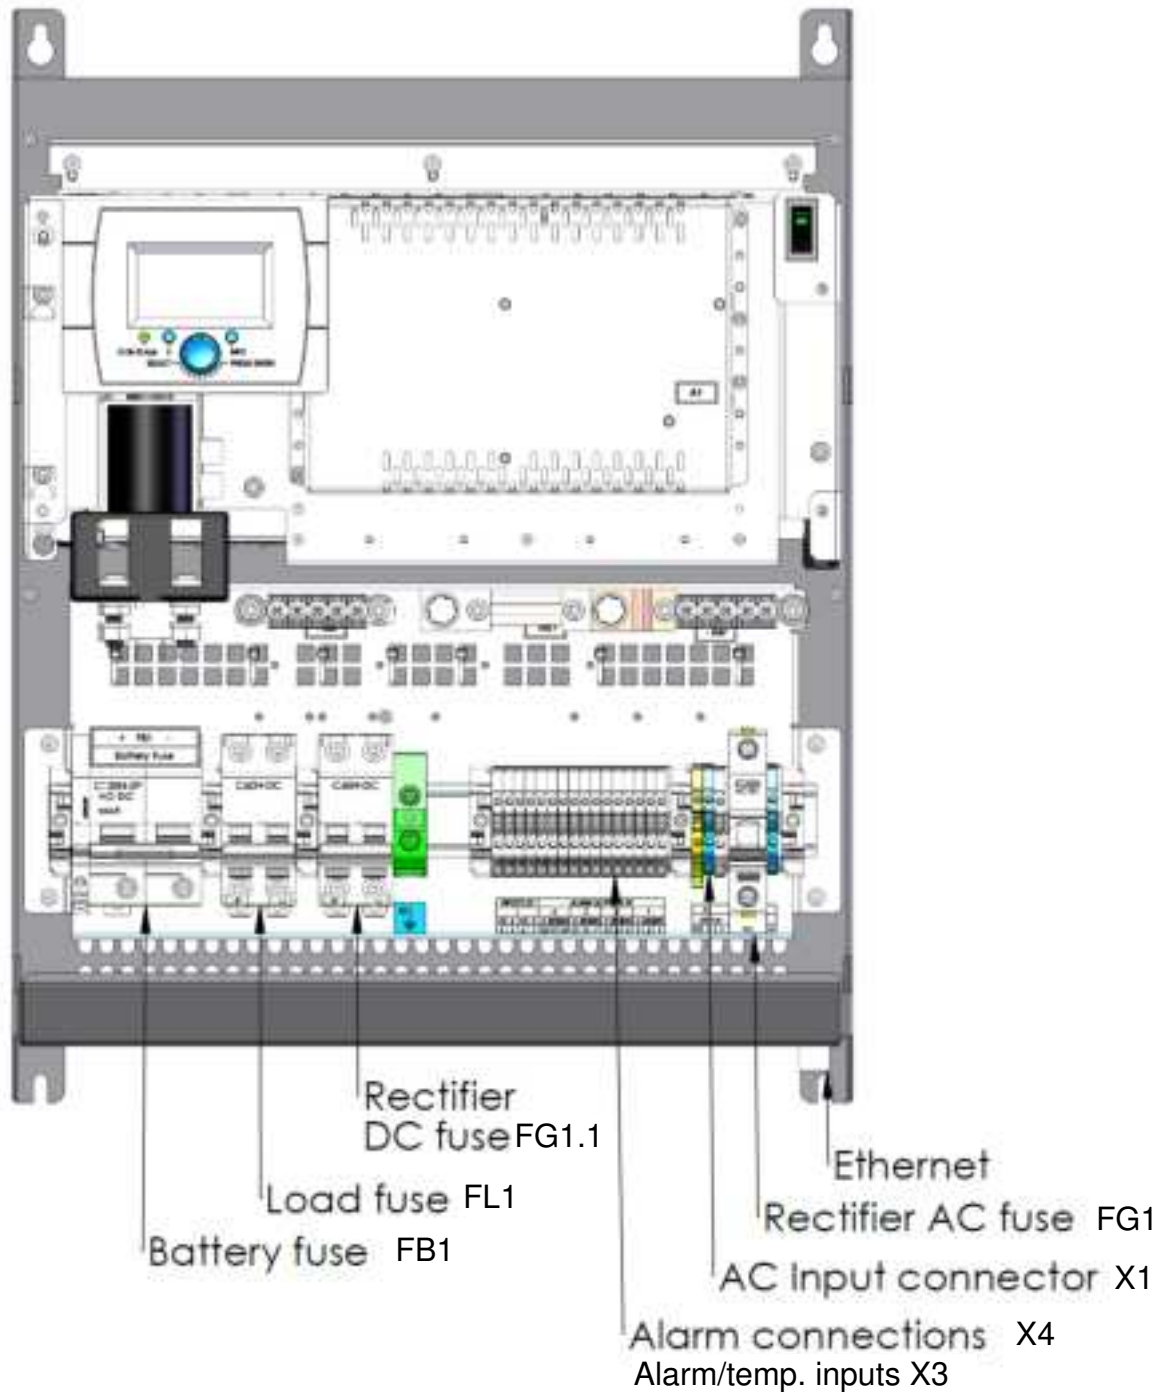

Figure 3. Component location and internal connections.
All electrical installations are made in the lower part of the system (see *Figure 3*). Cabling entry is from bottom. Electrical circuit description is given in the OPUS WMC main circuit diagram.
Connect the single phase mains cable to the block terminal X1 according to *Figure 3*. Protective earth (PE) must be connected first to the green-yellow terminal of X1. Then connect the neutral (N) connector to the blue terminal and line (L) to the grey terminal. Ensure the mains cable with the cable tie.
Rectifier AC input MCB FG1 and output MCB FG1.1 are installed in Factory, see figure 3. No field installation needed.
At first, verify that the rated OPUS WMC system voltage corresponds to the nominal battery voltage. Ensure that load MCB FL1 is switched off. Then connect the DC load to the terminals of FL1 (see *Figure 3*). Always connect the positive (+) wire of the load cable to the + terminal and the negative (-) wire to the – terminal.
- See figure 3, FB1 battery fuse
Ethernet port is available also in bottom side of the WMC, see figure 3